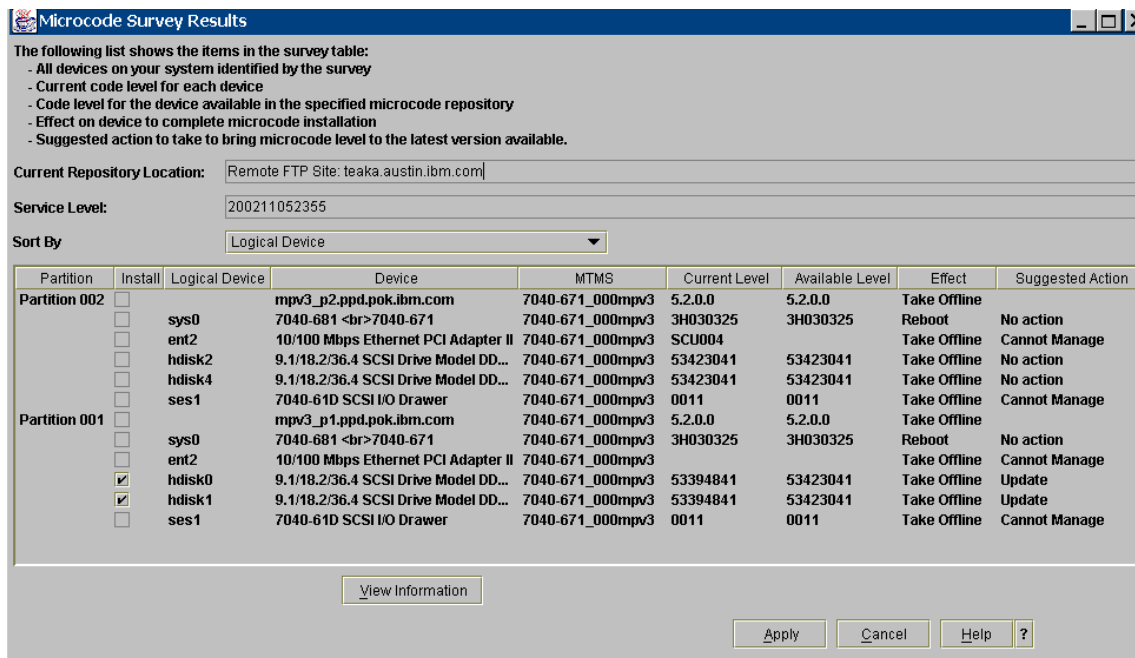

Figure 5-21 Microcode Survey Results
4. After entering the location, highlight the systems that you want to survey and select **Survey**. When the survey is completed, a summary of all the devices, their current and latest microcode levels, effects of the updates and suggested actions will be displayed as shown in Figure 5-21.
- The user can either update all or some of the devices by selecting on the “Install” check box on the device line(s) and click **Apply** as shown in Figure 5-21.